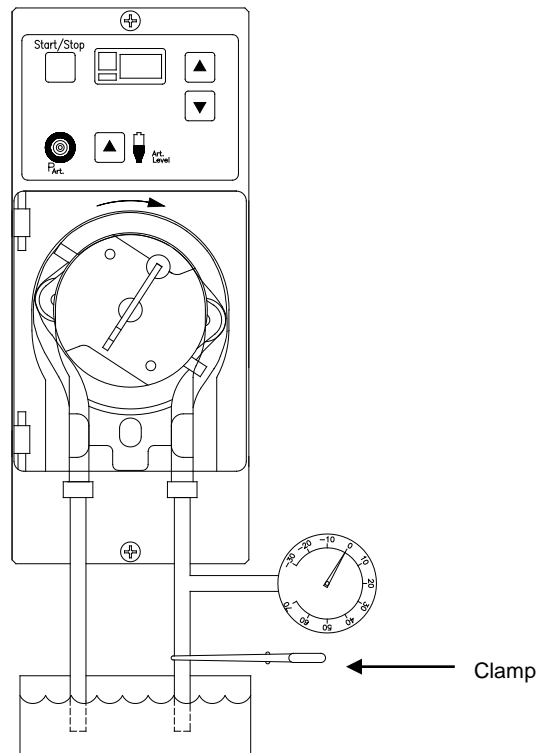

Figure 11. Blood Pump Rotor Occlusion Test
- Connect a pressure gauge to the bloodline in the pump (See Figure 11) and allow the rotor to pull up $37^{\circ}\text{C} \pm 1.5^{\circ}\text{C}$ water. Let this fluid flow past the pressure gauge long enough to clear out air.
- With the pump running at 600ml/min, clamp the outlet so that the pressure gauge is between the output of the pump and the clamp (See Figure 11). The peak pressure on the gauge must be between 25 and 35psi. If the peak pressure is out of range, replace the blood pump rotor springs (part number 650174).